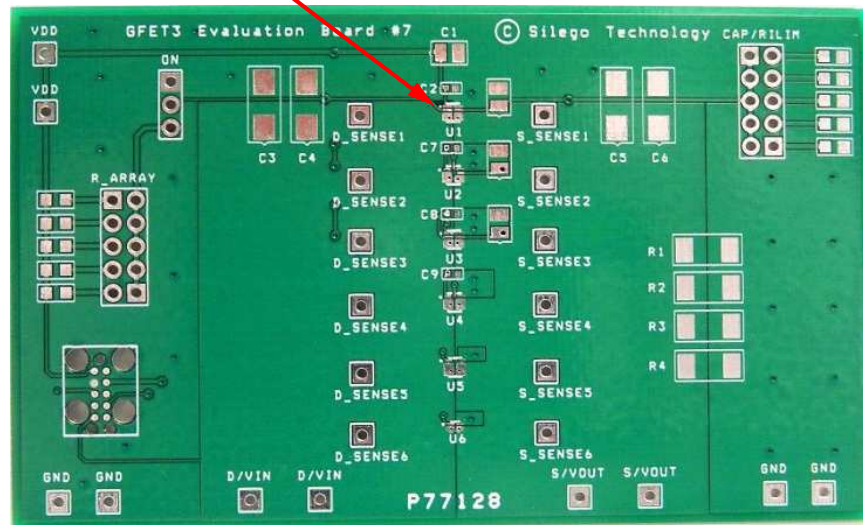

Figure 1. SLG5NT1533V Evaluation Board
2. Since the D and S pins dissipate most of the heat generated during high-load current operation, it is highly recommended to make power traces as short, direct, and wide as possible. A good practice is to make power traces with absolute minimum widths of 15 mils (0.381 mm) per Ampere. A representative layout, shown in Figure 1, illustrates proper techniques for heat to transfer as efficiently as possible out of the device;
A GFET3 Evaluation Board for SLG5NT1533V is designed according to the statements above and is illustrated on Figure 1. Please note that evaluation board has D_Sense and S_Sense pads. They cannot carry high currents and dedicated only for $R_{DS(ON)}$ evaluation.